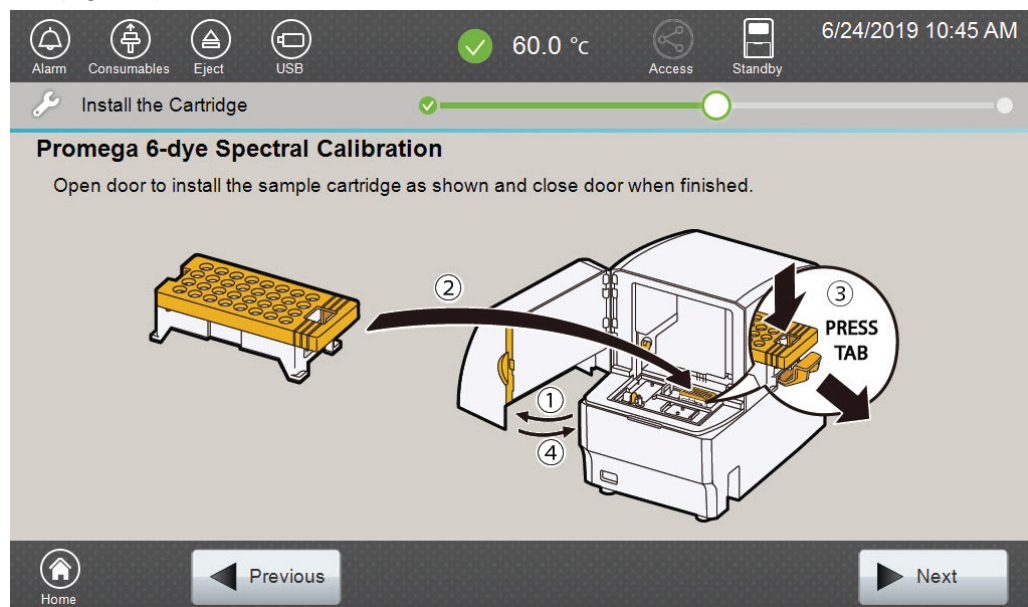

Figure 8. 'Install the Cartridge' screen.
- Open the front door of the Spectrum Compact CE System and mount the sample cartridge on the autosampler following the instructions displayed on the 'Install the Cartridge' screen (Figure 8).